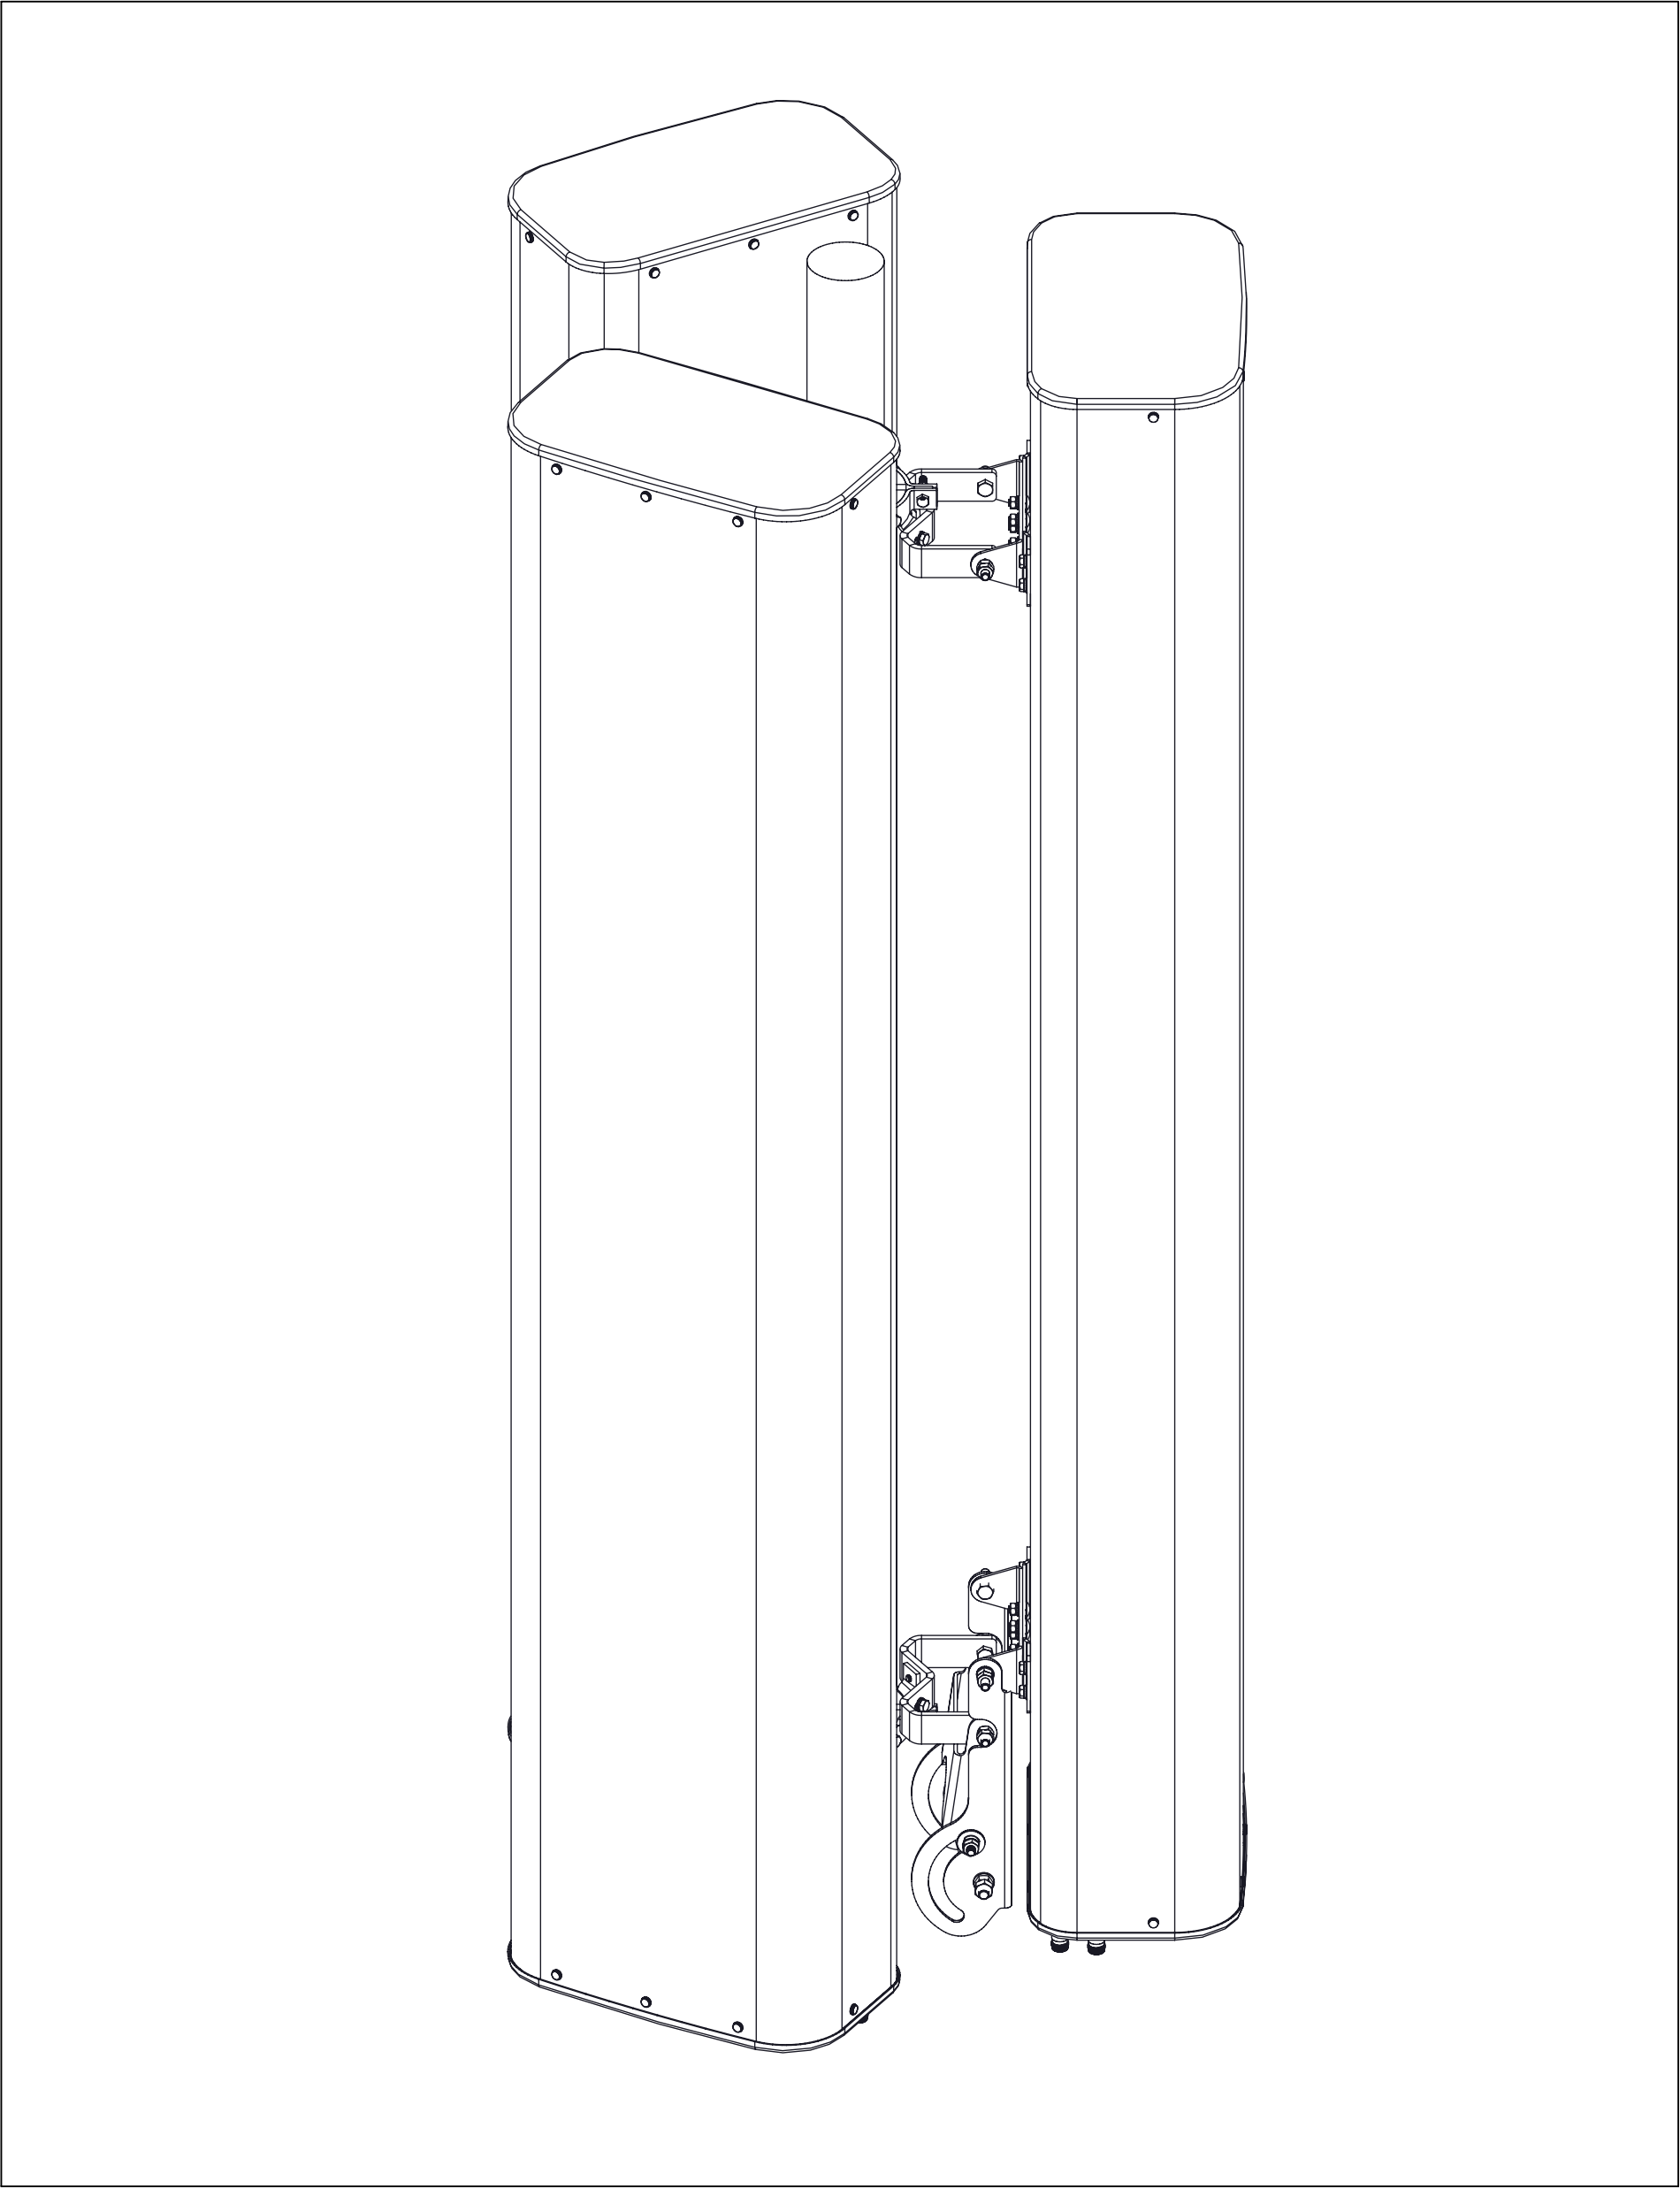

Figure 9. Uptilt Mounting.
- 1. For uptilt mounting, incorporate downtilt bracket into bottom bracket assembly as shown in Figure 9.
See Figure 9.